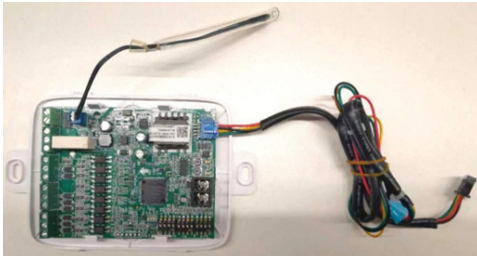

Figure 6
- 5. Make sure that all the connections are according to the wiring diagram (Fig. 6). Ensure that the 24V Transformer (installer-supplied) is connected correctly.